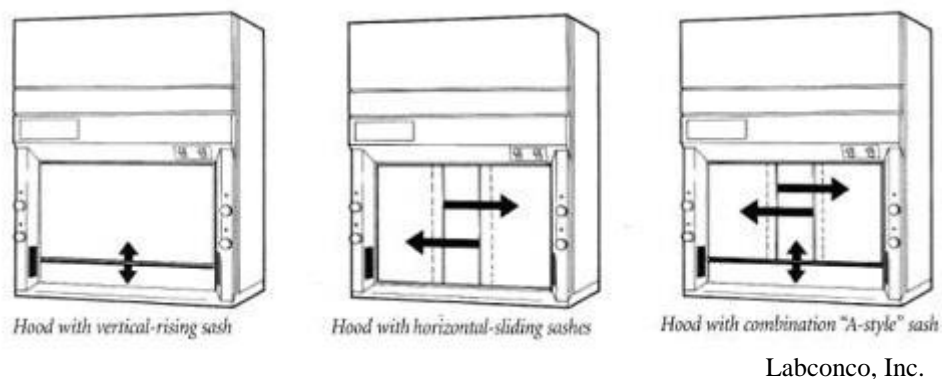

Figure 1: Illustration of the types of chemical fume hood sashes.
- The fume hood must be certified annually by UA Facilities Management (FM) or a contracted vendor (i.e. for some satellite locations). A certification label must be present on the front of the fume hood, including the date of the last certification.
- There are two main types of chemical fume hoods: those with a vertical sliding sash and those with a horizontal sliding sash, as illustrated in Figure 1. Different certification and use procedures are necessary for each type of fume hood.